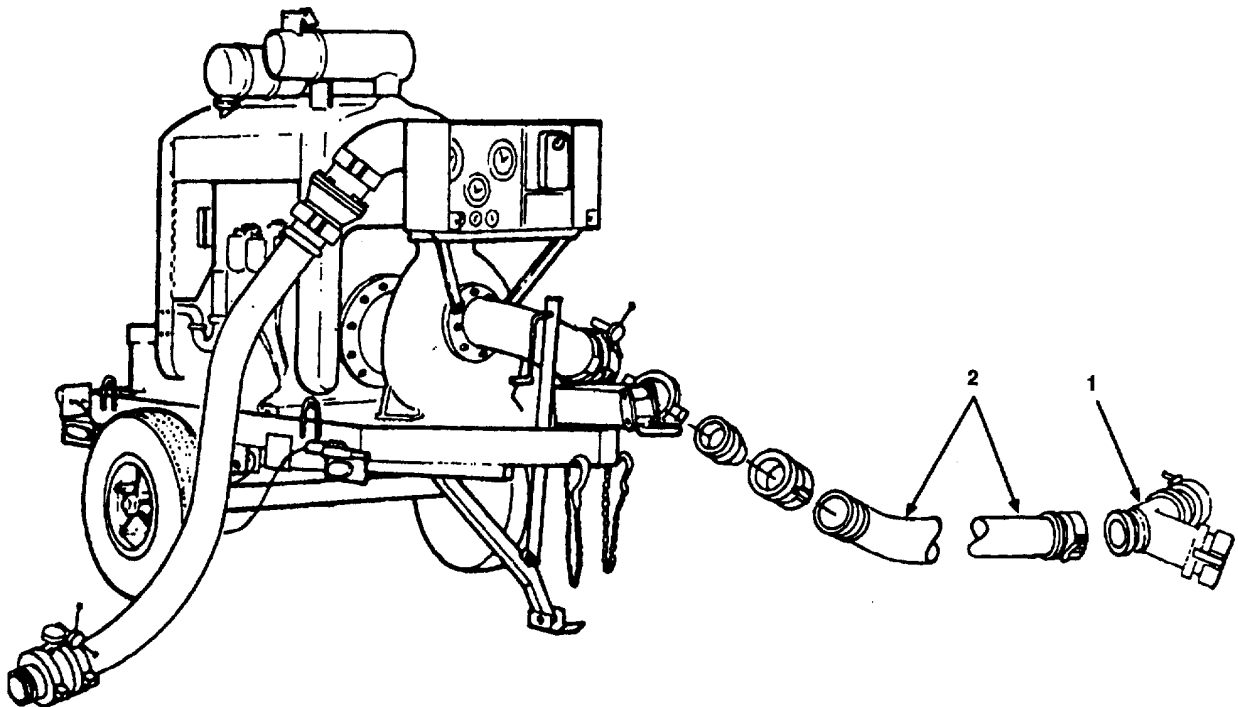

Figure 4-1. Reducer Y-Connection Removal.
- a. Open cam arms and disconnect reducer Y-connection (Figure 4-1, 1) from water source.
- b. Open cam arms on 6 inch x 10 foot suction hose assembly (2) and remove reducer Y-connection (1) from 6 inch x 10 foot suction hose assembly (2).
- e. Wrap antiseize tape around threads of two reducer pipe fittings (4) and grooved pipe coupling fitting (2).
- f. Coat two new gaskets with non-petroleum based silicone lubricant and install them in two female quick-disconnect couplings (3). Install two female quick-disconnect couplings (3) on two reducer pipe fittings (4).
- g. Install quick-disconnect male coupling half (1) on grooved coupling pipe fitting (2).
- a. Open cam arms on 6 inch x 10 foot suction hose assembly (Figure 4-1, 2) and install reducer Y-connection (1) in 6 inch x 10 foot suction hose assembly (2).